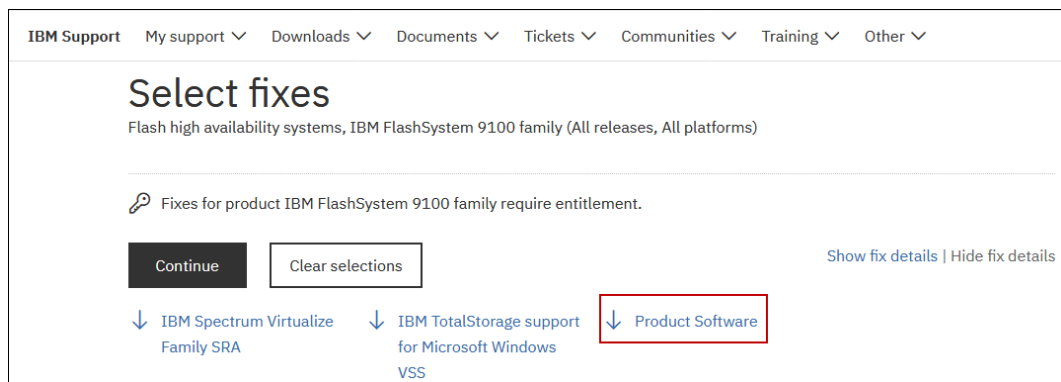

Figure 8-28 Select the Product Software
3. The Select fixes panel (Figure 8-28) provides download options for the software you are looking for. In this example we are showing where to go to download the Product Software.